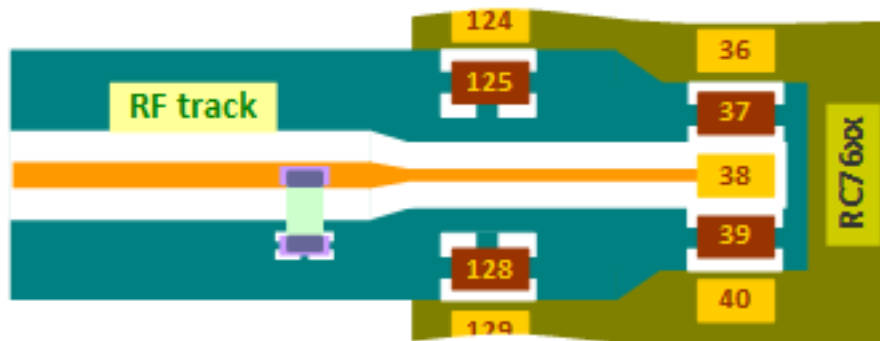

Figure 5-4: Track width and component pad
- For each antenna interface (RF_MAIN, RF_DIV, RF_GNSS), the related GND pads should be considered as an integrated part of the radio input/output (refer to Figure 5-4 example). Reference ground of the RF traces shall be a solid integrated plane.